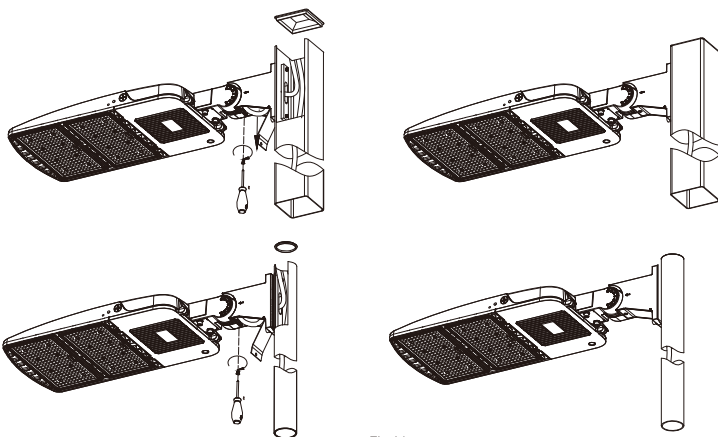

Fig 14
Step 7 . Close the cover plate on the lamp, tighten the screw of the cover plate, and cover the top cover of the lamp post, as shown in Fig. 14